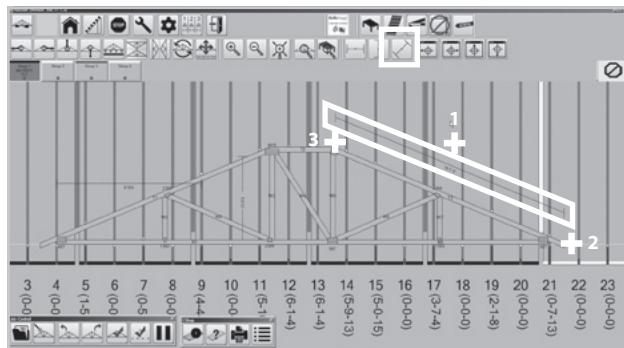

Figure 48
3.8.3. Dimension diagonale (Figure 48):